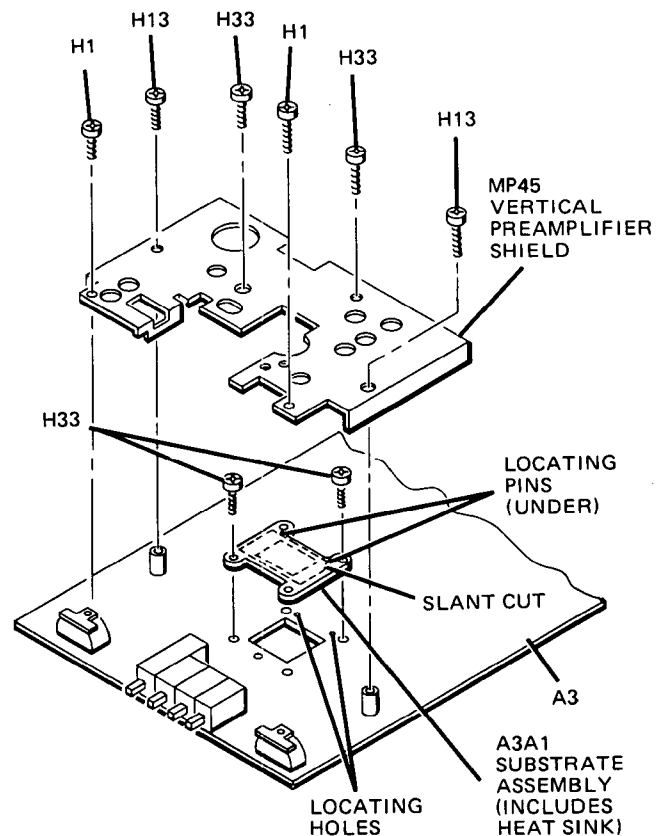

Figure 8-6. A3A1 Removal
8-23. Vertical Preamp IC A3A1 Removal. To remove A3A1, see figure 8-6 and proceed as follows:
- e. To reinstall substrate assembly A3A1 reverse removal procedure; be certain that orientation of parts is as shown in figure 8-6.